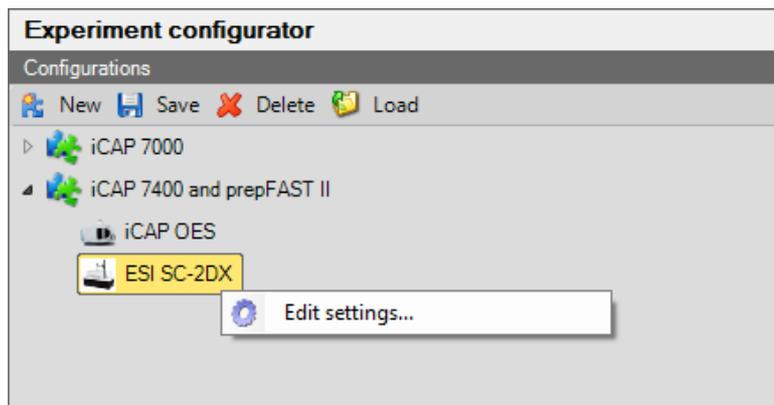

Figure 14-29. Shortcut menu to edit settings
3. In the list of **Configurations**, right-click the Instrument you wish to edit the settings for, see Figure 14-29.